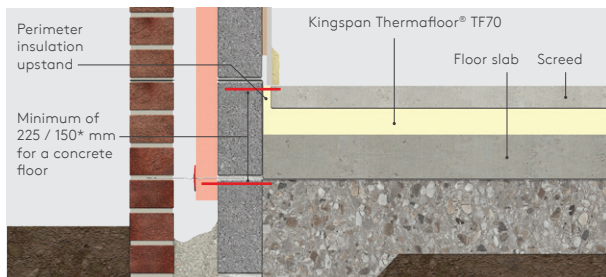
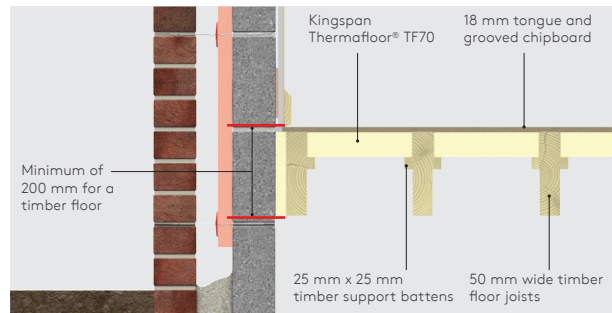

Figure 1 - Complete masonry floor insulation
Figure 5 - Complete timber floor insulation
For buildings with relatively small ground floor areas (primarily domestic properties), if the ground floor is left uninsulated, the thermal performance will be poor. To enhance the thermal performance, complete insulation of the ground floor should be adopted (Figures 1 & 9).
- In order to minimise cold bridging at the edge of the floor, the distance between the top surface of the floor insulation or perimeter insulation upstand, and the bottom of the wall insulation must be a minimum of 225 / 150 mm* (see Figures 1 & 2) for a concrete floor and 200 mm for a suspended timber floor (see Figure 5). The further down the wall insulation extends past the floor insulation, the better the thermal performance of the junction between the wall and the floor.